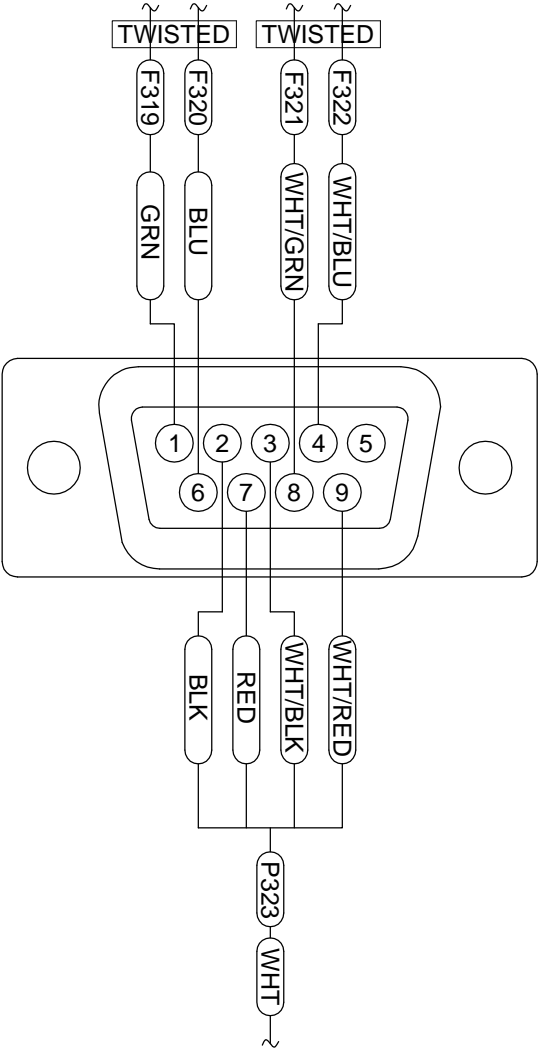

FIGURE 1: INSTALLING PINS INTO THE ADAHRS D-SUB CONNECTOR
Step 6: Find the WH-P323 (WHT) four conductor shielded wire, twisted WH-F319 (GRN) and WH-F320 (BLU) wires and twisted WH-F321 (WHT/GRN) and WH-322 (WHT/BLU) wires routed previously to the tailcone area coming from the WH-00036 RV-12 Tunnel Conversion Harness and insert them into the ES-205203-3 9-Pin D-Sub as shown in Figure 1.